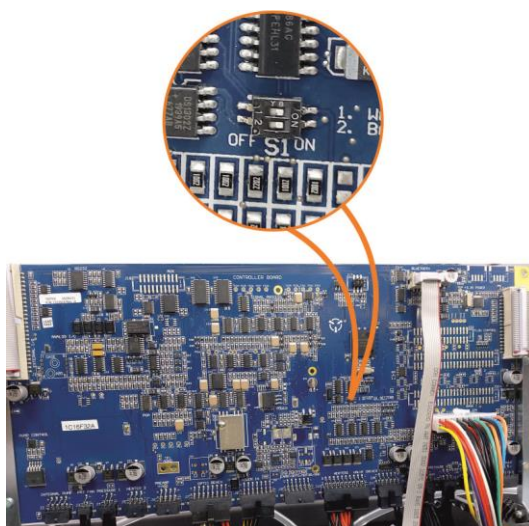

Figure 33 – Switching the Battery ON/OFF
2. Refer to Figure 33. Check that the battery switch is turned ON at the main controller PCA.
3. Refer to Figure 33. If storing over a long period (six months) turn the battery OFF by switching the DIP switch (S1) on the main controller PCA.